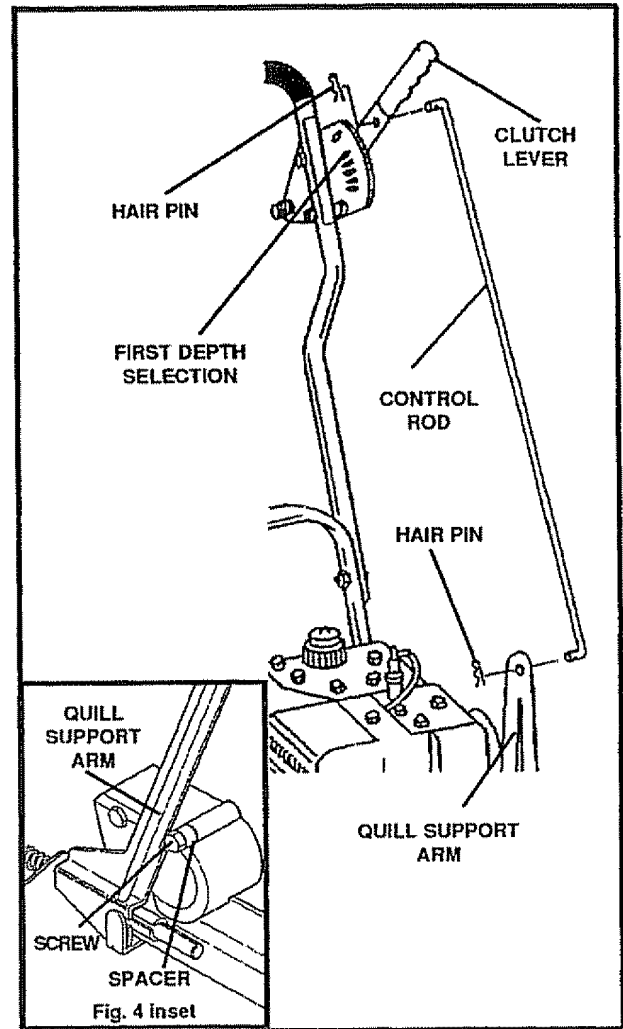
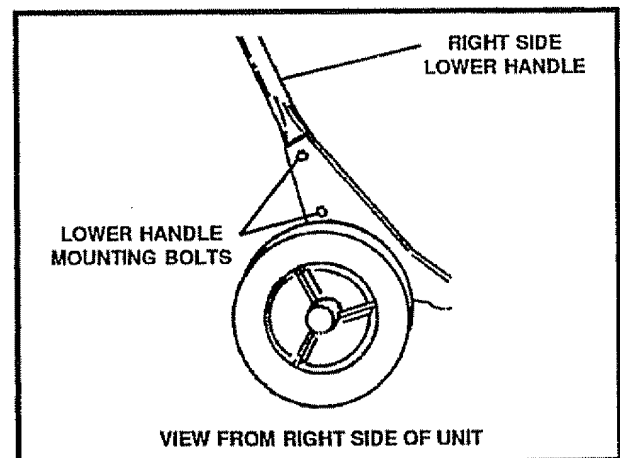

FIG. 4
FIG. 5
- Insert one end of the control rod from left to right through the hole in the clutch lever (See Fig. 4) and attach with a hair pin (found in the parts bag)
- Place the clutch lever in the first depth selection (See Fig. 4) and insert the other end of the control rod through the hole in the quill support arm (See Fig. 4) Attach with hairpin (found in parts bag)
NOTE: If it is difficult to get the clutch lever into NEUTRAL, it may be necessary to loosen the four screws and nuts holding the lower handle to the frame (See Fig 5). Pry up (forward) on the handle only enough to allow the clutch lever to freely enter the NEUTRAL position. Retighten nuts and screws. When the clutch lever is in NEUTRAL the Quill Support Arm should be within 1/4 inch of the spacer and screw behind it (See Fig 4 inset)